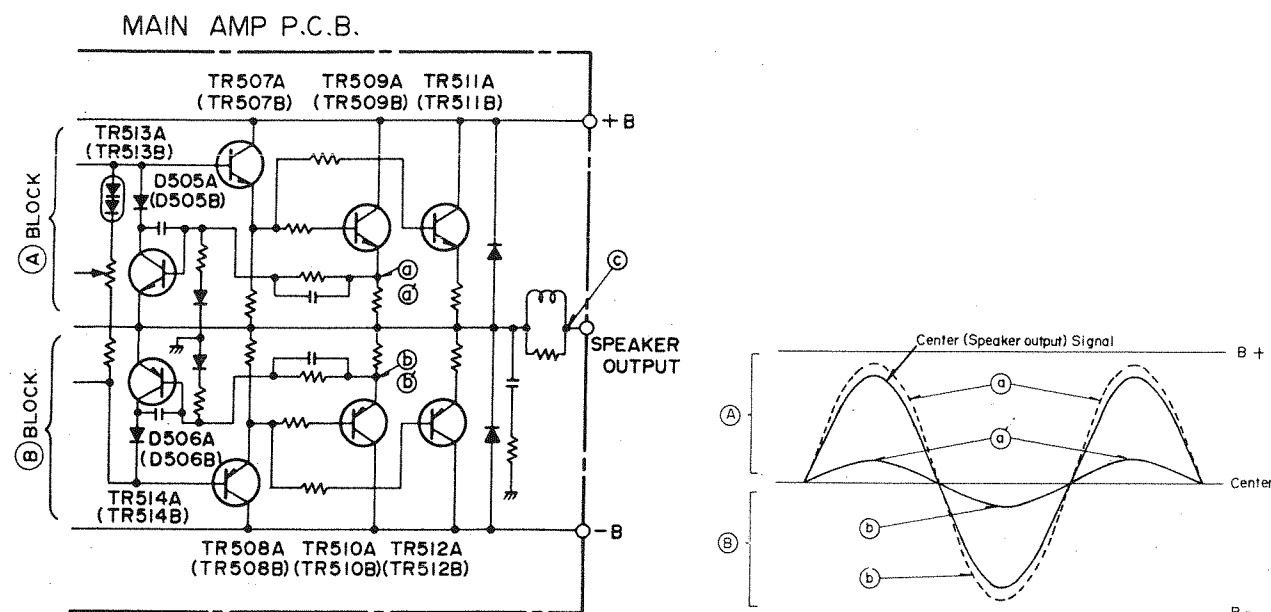

Figure 39
If Speaker terminals are shorted, the output line (C) line of Figure 39) is grounded and excessively high current flows from collector to emitter of TR509A (TR509B) and TR510A (TR510B), and a high voltage will appear across R529A (R529B) and 530A (R530B). This high voltage goes to base of TR513A (TR513B) and TR514A (TR514B).